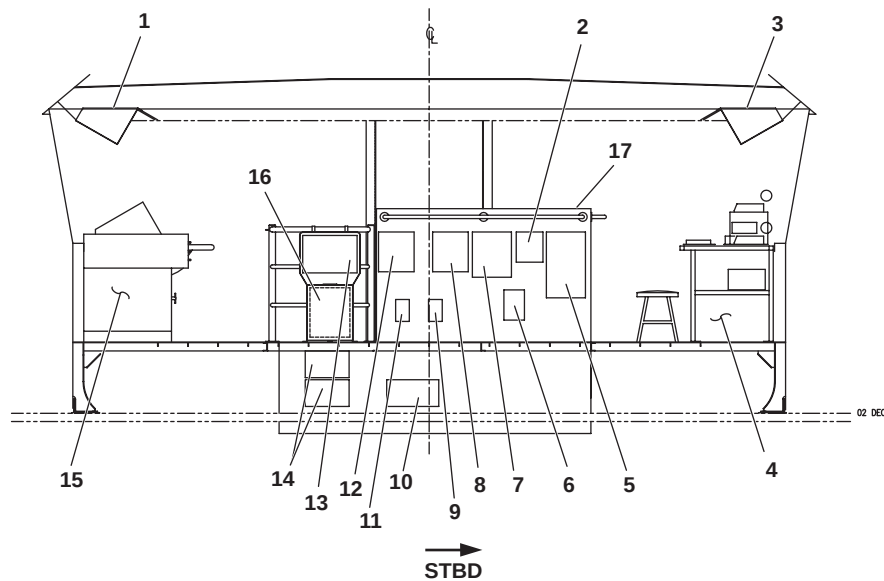

Figure 5. Pilothouse Interior (Looking Forward)
1. Aft chart table overhead console (figure 5, item 1). The aft chart table overhead console contains various pieces of navigation and communication gear including a marine Very High Frequency (VHF) radio, Precision Lightweight GPS (Global Positioning System) Receiver (PLGR), and wind speed/direction readouts. See figure 2 for details.
2. Uninterrupted Power Supply (UPS) bypass and disconnect switch box. (figure 5, item 2). The UPS bypass and disconnect switch box permits bypassing or disconnection of the UPSs for the C4ISR gear.
3. GMDSS table overhead console (figure 5, item 3). The GMDSS table overhead console holds many of the GMDSS components. See figure 3 for details.
4. GMDSS table (figure 5, item 4). The GMDSS table holds many components of the GMDSS suite and provides a work area for GMDSS operation.
5. 120V radar power distribution panel (figure 5, item 5). The 120V radar power distribution panel provides circuit breakers for the X band and S band radars.
6. Radar distribution panel isolation transformer (figure 5, item 6). The radar distribution panel isolation transformer protects the radar gear from electrical anomalies.
7. 24V general alarm battery charger (figure 5, item 7). The 24V general alarm battery charger maintains the charge for the general alarm battery bank.
8. 24V GMDSS battery charger (figure 5, item 8). The 24V GMDSS battery charger maintains the charge for the GMDSS battery bank.
9. GMDSS disconnect switch (figure 5, item 9). The disconnect switch secures power to the 24V GMDSS battery charger.
10. UPS unit (figure 5, item 10). This UPS unit provides uninterrupted power for radio room components.
11. 12 V disconnect switch (figure 5, item 11). The disconnect switch secures power to the 12V marine radio battery charger.
12. 12V marine radio battery charger (figure 5, item 12). The 12V marine radio battery charger maintains the charge for the 12V marine radio battery.
13. Gyrocompass control unit (figure 5, item 13). The gyrocompass control unit provides controls for the gyrocompass.
14. Integrated Bridge System (IBS) UPS units (figure 5, item 14). The IBS UPS units provided uninterrupted power to the IBS gear.
15. Chart table (figure 5, item 15). The chart table provides open working space for navigation charts.
16. Gyrocompass (figure 5, item 16). The gyrocompass provides accurate directional data to pilothouse personnel and to key navigational gear.
17. Radio room (figure 5, item 17). The radio room houses the vessel's secure and tactical communication systems. See figures 7-10 for details.